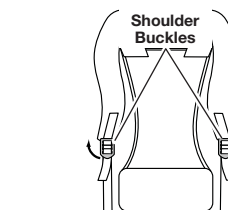

Fig. 3
1. Pull up on the bottom tabs of the shoulder support buckles to loosen the shoulder supports (Fig. 3).